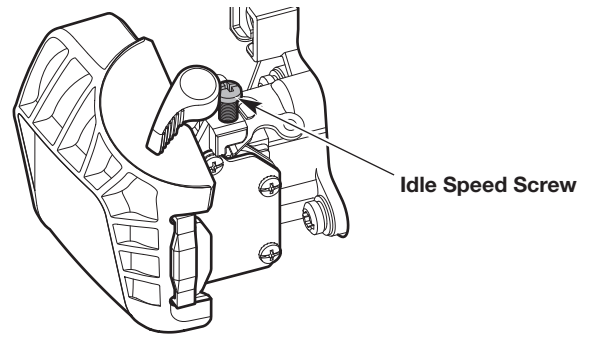

Fig. 19
- If the engine stops, increase the idle speed. Use a small Phillips screwdriver to turn the idle speed screw clockwise, 1/8 of a turn at a time, until the engine idles smoothly (Fig. 19).